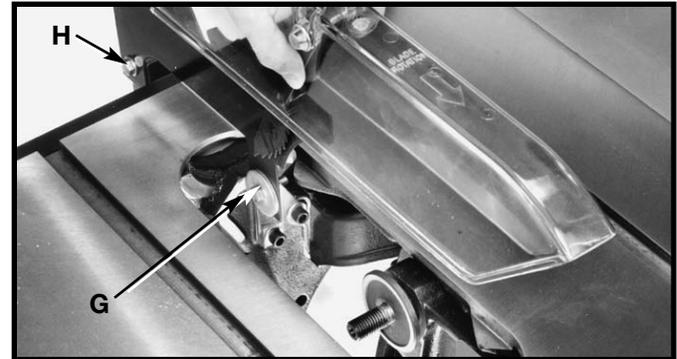
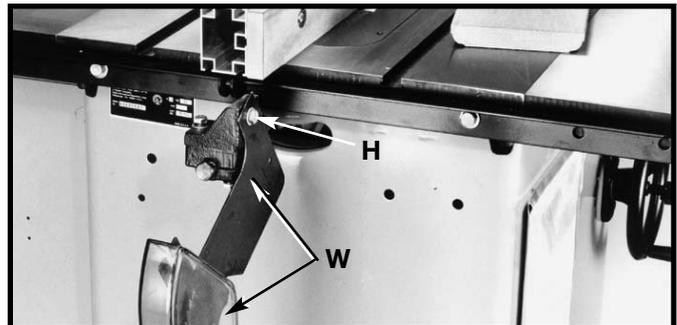

Fig. 67
Fig. 68
⚠ WARNING FOR CERTAIN CUTTING OPERATIONS (DADOING AND MOULDING) WHERE THE WORKPIECE IS NOT CUT COMPLETELY THROUGH, THE BLADE GUARD AND SPLITTER ASSEMBLY CANNOT BE USED. LOOSEN SCREWS (G) AND (H) FIG. 67. LIFT UP AND SWING BLADE GUARD AND SPLITTER ASSEMBLY (W) FIG. 68 TO THE REAR OF THE SAW AND RETIGHTEN (H).